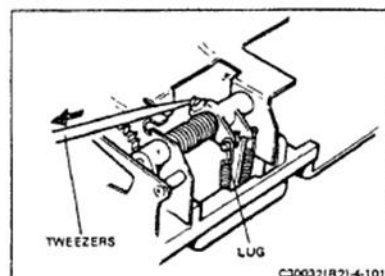

FIGURE 4-101 REMOVING FRESNEL CARRIER DRIVE SPRING
10. Refer to Figure 4-101. Use tweezers and slip the hooked end of the Fresnel carrier drive spring off its retainer on the drag link bell crank. Free it from the lug of the overdrive spring.
11. Referring to Figure 4-101, connect the Fresnel carrier drive spring to the drag link bell crank.